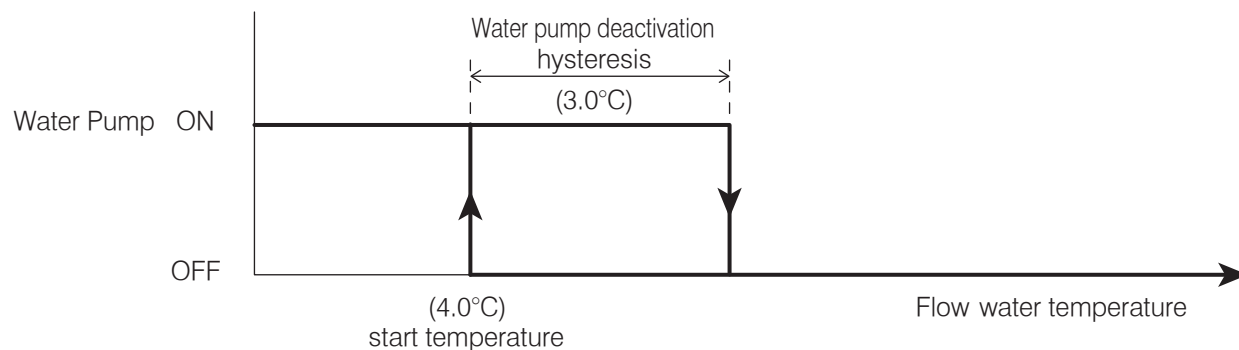

Figure 8-11: Frost protection (flow water temperature) - water pump
- Flow water temperature - refer to Section 8.4.2 and Figure 8-11.